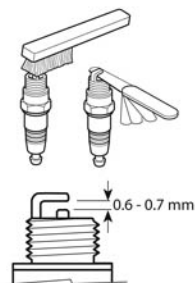

Fig. 22
- > Check the spark plug gap; it should be 0,6 - 0,7mm (Fig. 22).